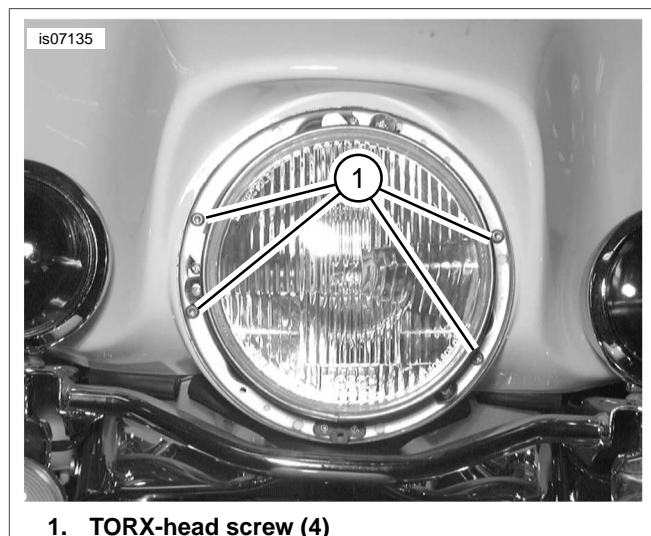

Figure 3. Headlamp Housing Mount (FLHTP)
FLHTP Models: See Figure 3. Remove the four TORX® head screws (1) securing the headlamp bucket to the fairing.